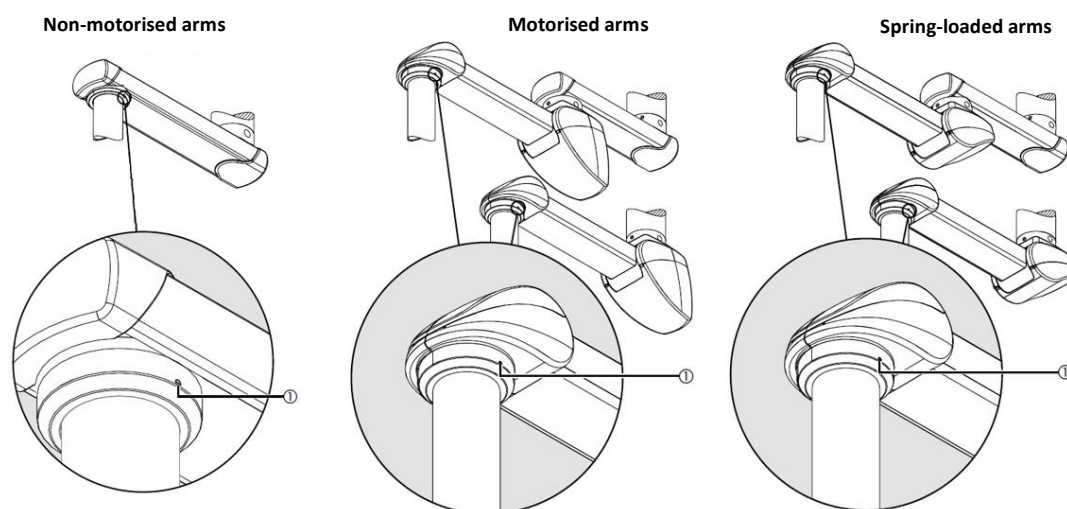

Fig.59 Friction brake adjustment on drop tube with bearing
- For double arm versions with friction bearing in between, it is recommended to fit 2 ball stops (3) (see Fig. 59). The detailed illustration shows the intermediate bearing (11) (without outer ring) and the position of the stop screw (1) in the ball stops (3).